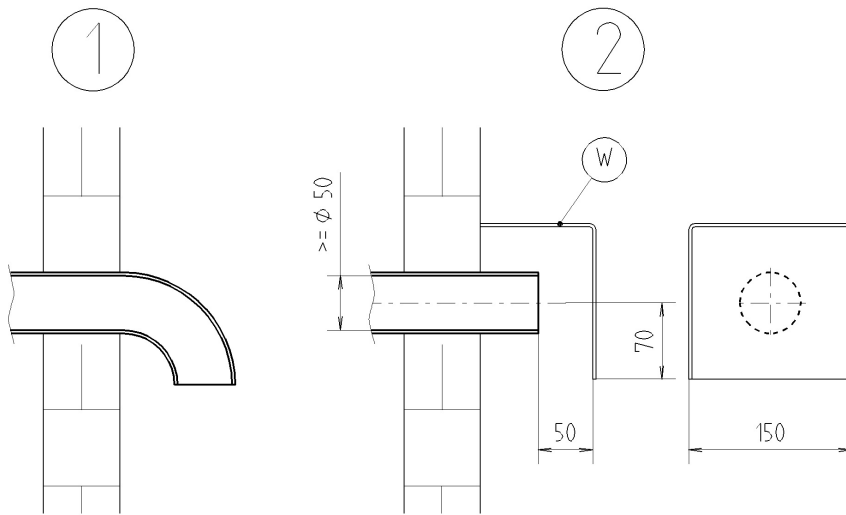

Figure 3: Wind protection of air supply duct
- If the duct leads outside, it must end with a 90° bend facing down or a wind protection device (see Figure 3).